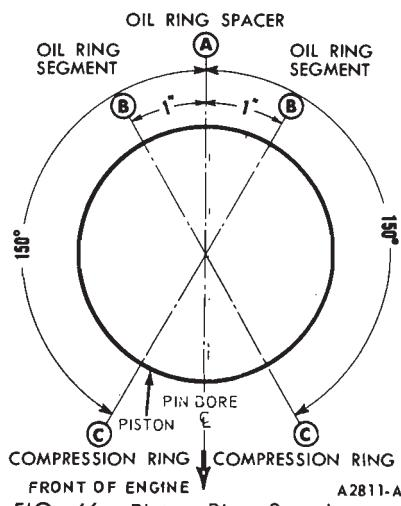

FIG. 46—Piston Ring Spacing
3. Make sure the ring gaps are properly spaced around the circumference of the piston (Fig. 46).